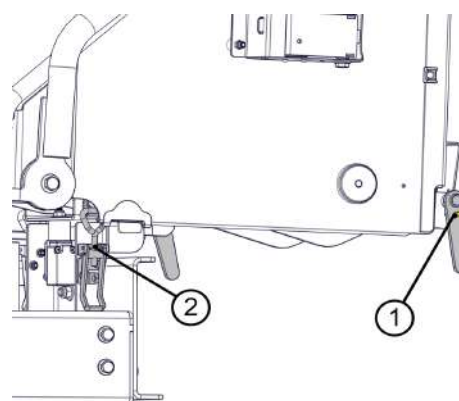

Figure 23 - Tray and Funnel Removal
2. Remove the locking pins from each side, withdraw both hinges and remove the tray from the feed funnel (Figure 23, Item 1).
4. Locate the two securing catches underneath the feed funnel and release them to detach the funnel from the chassis (Figure 23, Item 2).